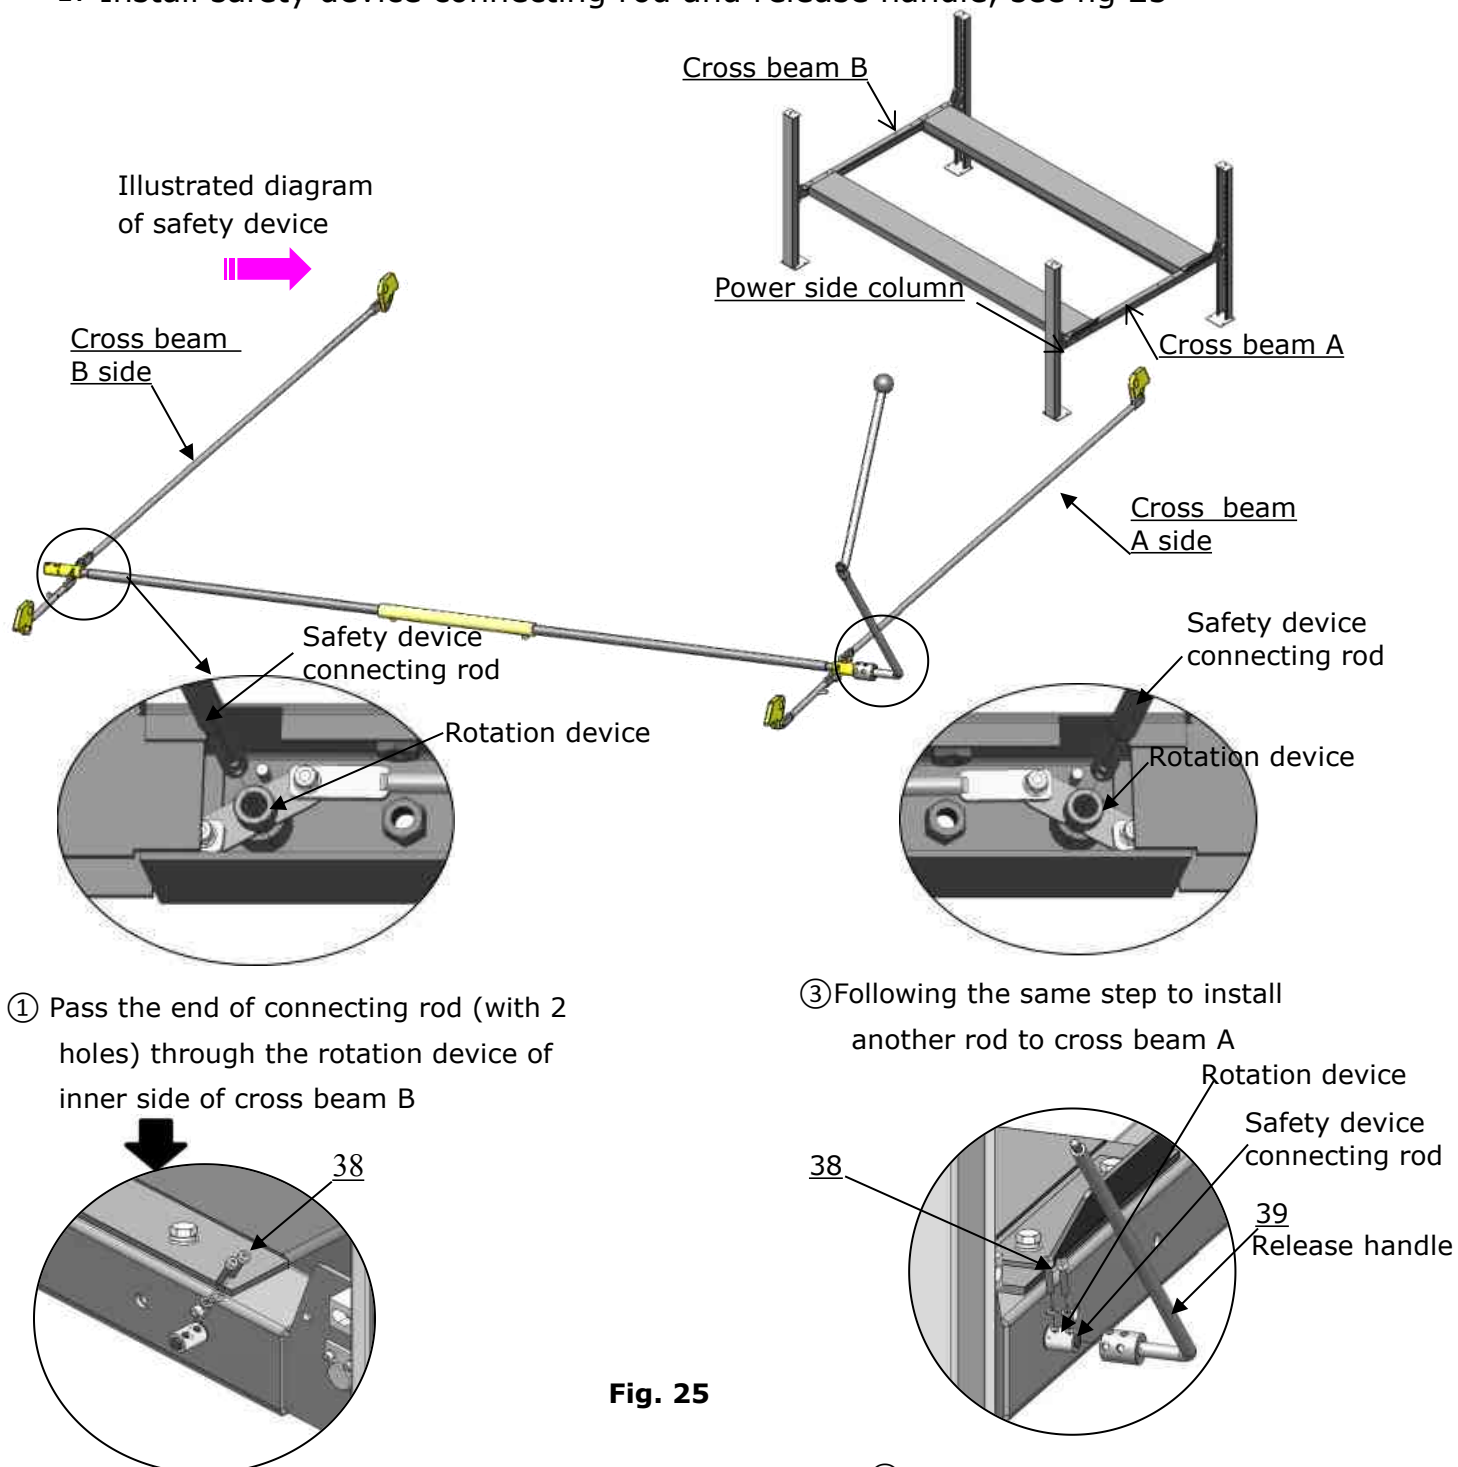

Fig. 25
1. Install safety device connecting rod and release handle, see fig 25